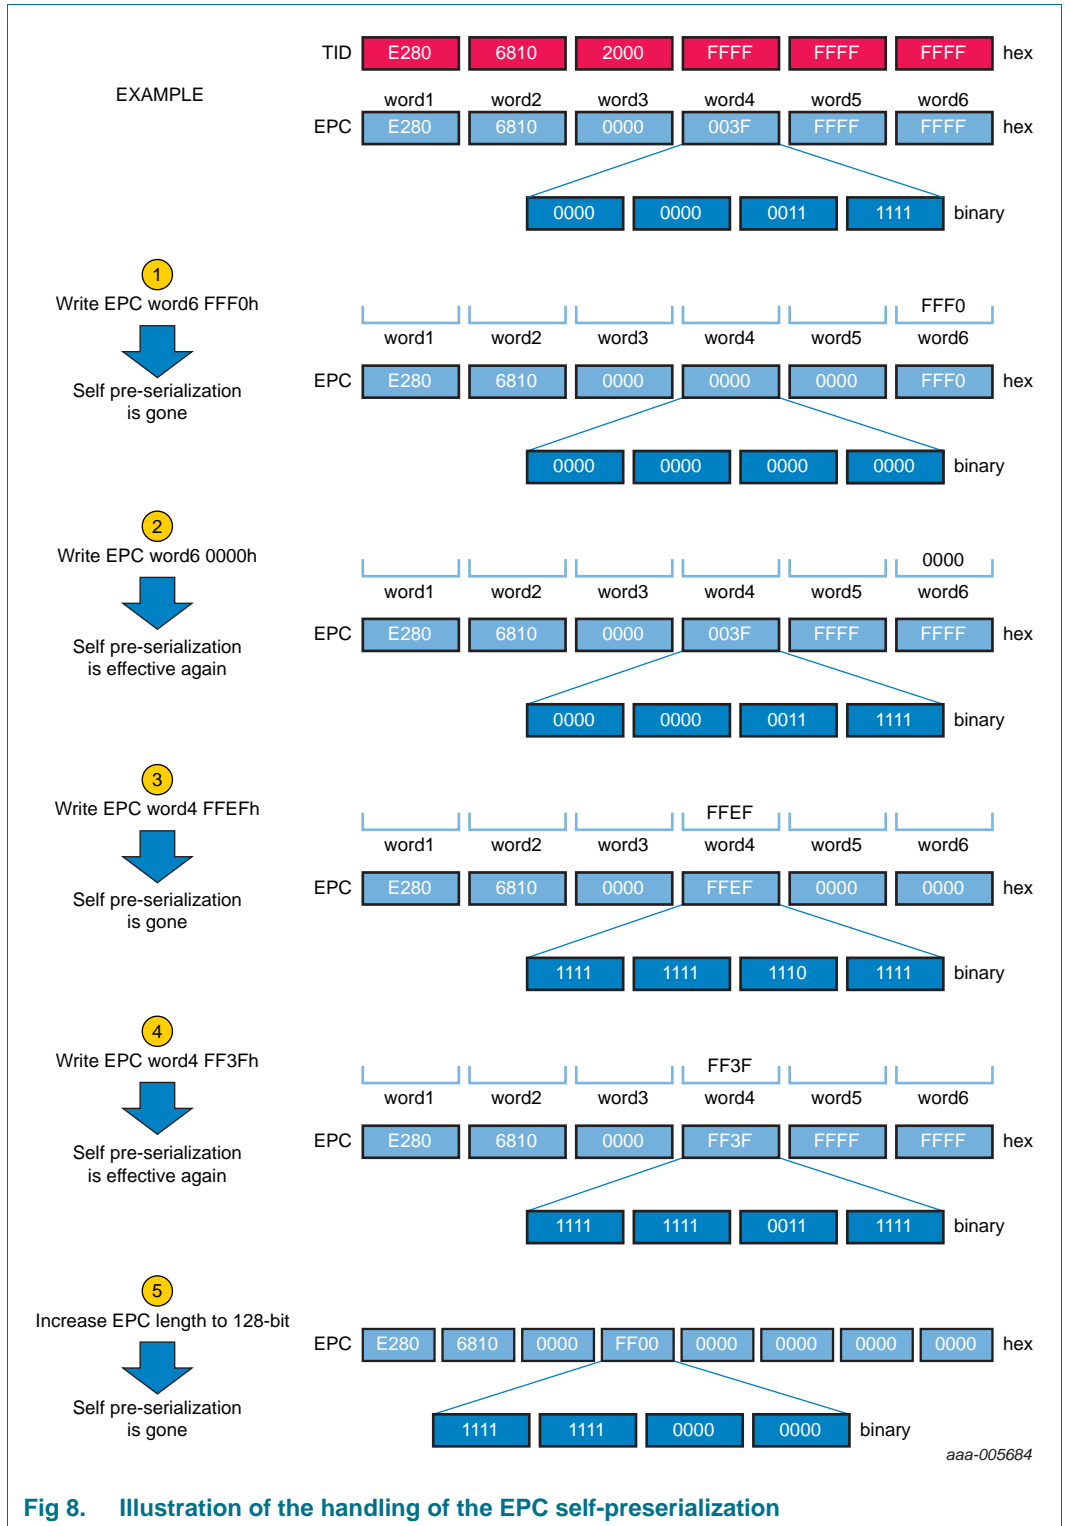

Fig 8. Illustration of the handling of the EPC self-preserialization
- Erase sixth and fifth word of the EPC to “00 00h” and keep the content of the lower 6 bits of the fourth word of the EPC at its serialized content (see Figure 8).